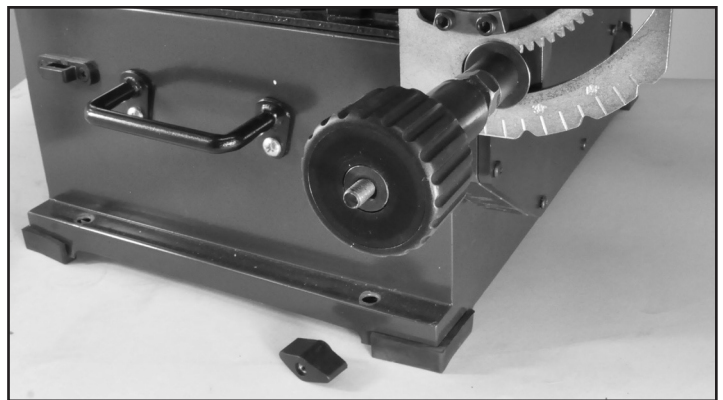

FIG. 9
9. Insert the Table Adjustment Handle Assembly (steps 3 & 4) onto the metal rod, and slide its geared end through support plate and into the large hole of the frame's left side. The gears in the handle end should align with the teeth in the left support. FIG. 9.